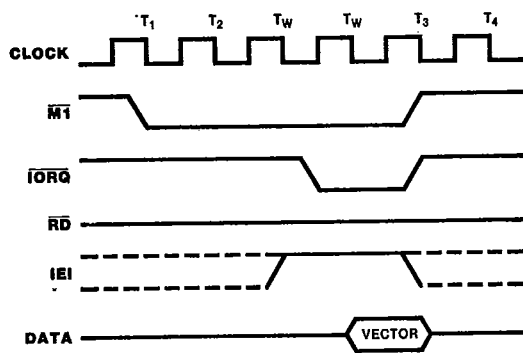

Figure 7. Interrupt Acknowledge Cycle
**Interrupt Acknowledge Cycle.** (Figure 7) After receiving an Interrupt Request signal ( $\overline{\text{INT}}$  pulled Low), the Z80 CPU sends an Interrupt Acknowledge signal ( $\overline{\text{M1}}$  and  $\overline{\text{IORQ}}$  both Low). The daisy-chained interrupt circuits determine the highest priority interrupt requestor. The IEI of the highest priority peripheral is terminated High. For any peripheral